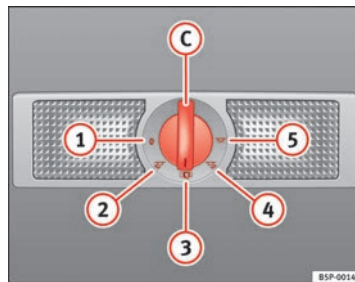

Fig. 80 Interior roof trim: rear interior lights and reading lights.
The switch ⇒ Fig. 80 (C) is used to select the following positions:
In switch position ⇒ Fig. 80 (1), the interior and reading lights are switched off.